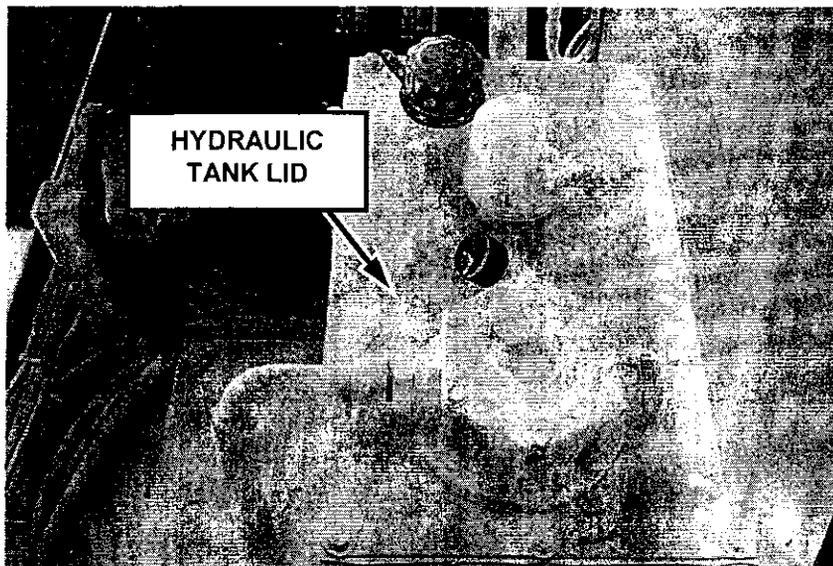

FIGURE 44
3. Remove the lid of the tank and clean the inside of the tank thoroughly (figure 44).